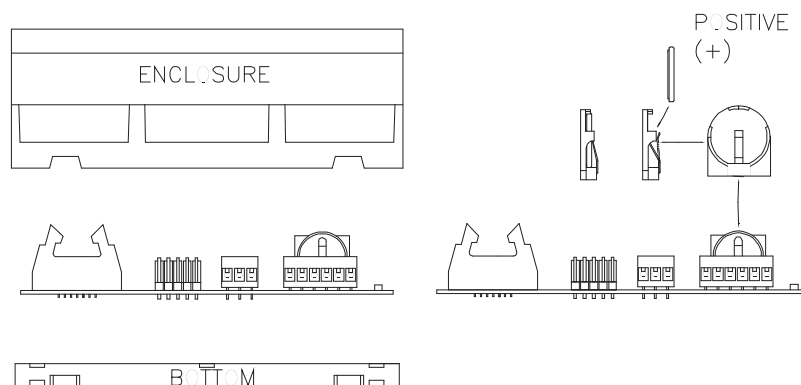

Figure 2.7 - Real Time Clock Battery Replacement
5. Slide the battery from the holder and replace with a new battery. Make sure the new battery is in correctly. The Positive (+) should be visible. See Figure 2.7.